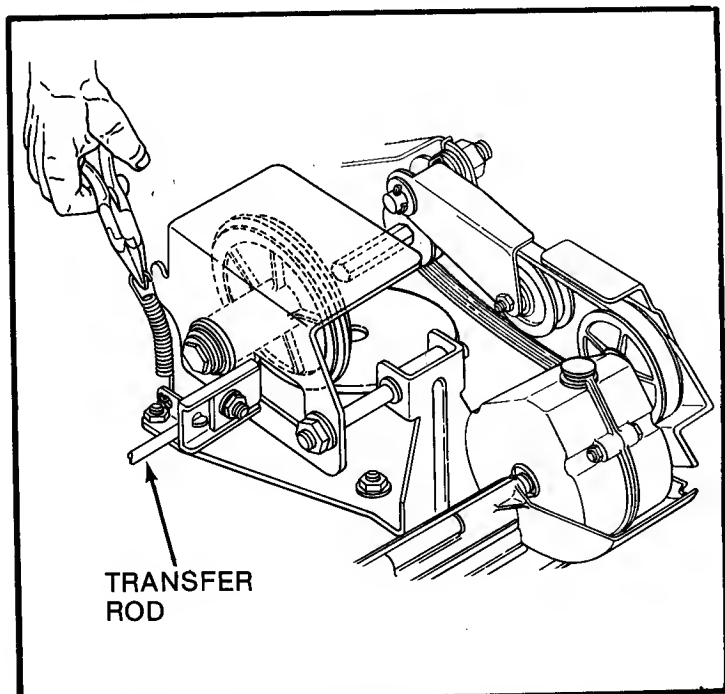
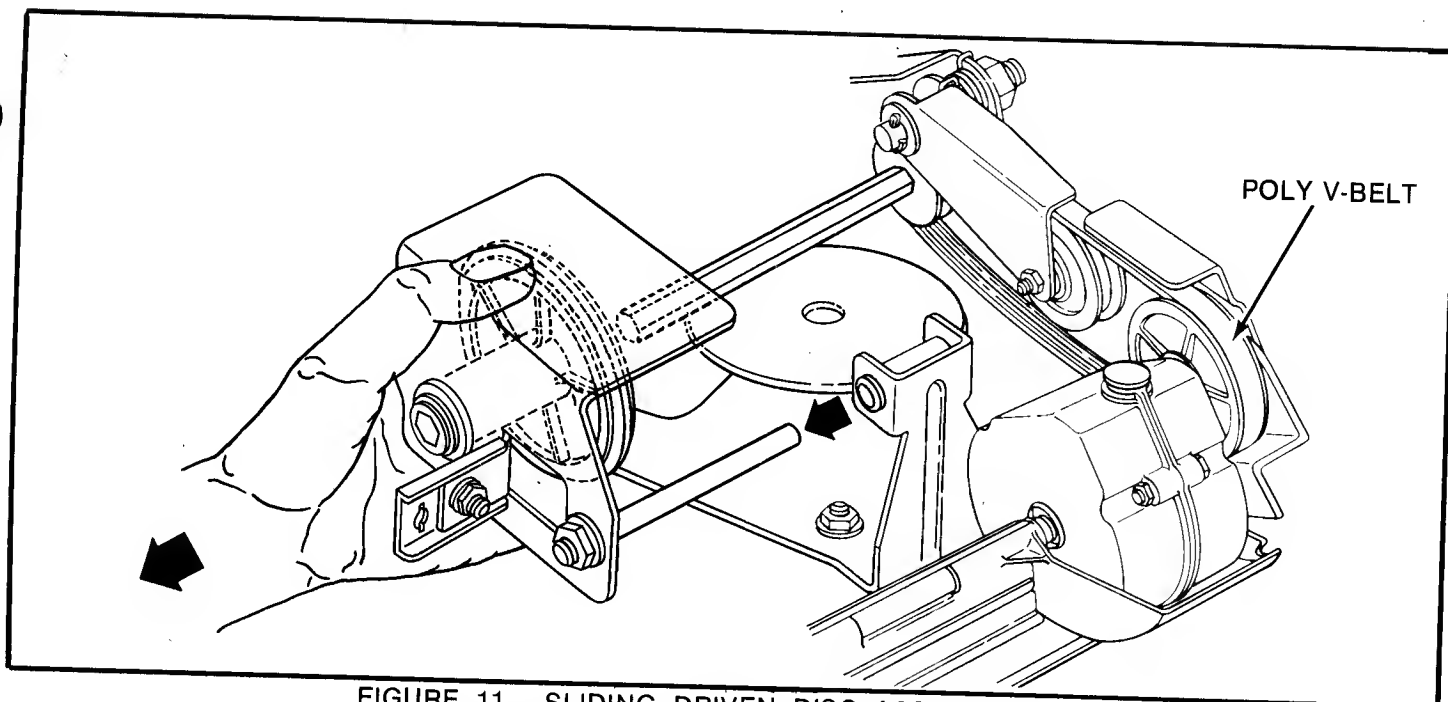

FIG 10 - UNHOOKING DRIVE SPRING
FIGURE 11 - SLIDING DRIVEN DISC ASSEMBLY OFF
If the mower does not pull properly with the wheel drive clutch engaged, check for the following: Grease on drive disc causing slippage, broken or disconnected drive assembly spring (see Figure 10), driven disc too worn to contact the drive disc properly, driven disc out of adjustment. This condition could also be caused by worn belts. If the belts are in good condition and the clutch is properly adjusted, service the drive system as follows:
**DRIVEN DISC REPLACEMENT:** If the rubber of driven disc is badly chunked or worn down to within 1/16" of the metal rim, remove the driven disc assembly and replace the driven disc as follows: Remove the clip and detach the transfer rod from the speed control lever (Figure 10). Using a pair of needle nose pliers, unhook the drive spring and slide the driven disc assembly off as shown in Figure 11. Remove the five machine screws securing the rubber driven disc and separate the worn disc from the hub. Reverse this procedure to install the replacement disc and to reconnect the drive components.